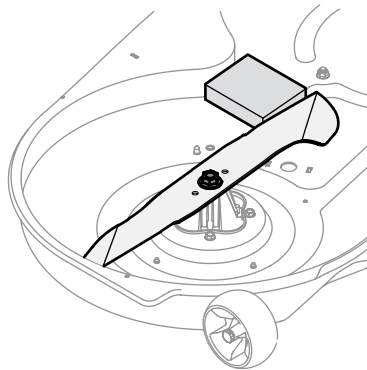

Figure 4-15
2. Place a block of wood between the center deck housing baffle and the cutting blade to act as a stabilizer. See Figure 4-15.
3. Remove the hex flange nut that secures the blade to the spindle assembly. See Figure 4-15.